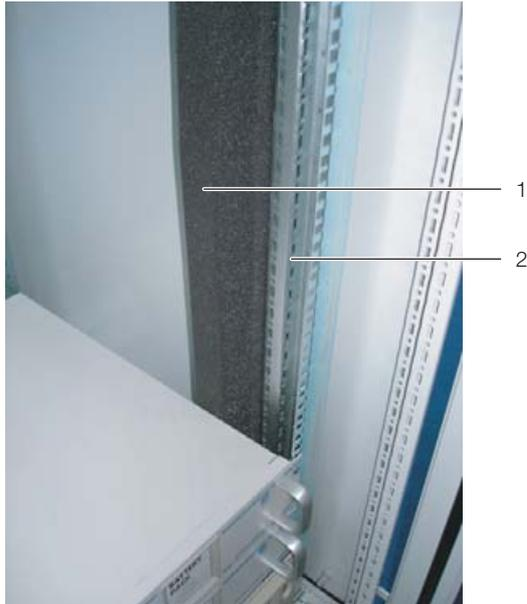

Fig. 16: Foam strip on a server rack upright
- Fasten the wider (Model No. 3301.370 / 3301.320) of the two foam strips from the LCP DX accessories onto one of the front uprights of the server rack from the outside (fig. 16). Make sure to install this strip on the side of the server enclosure onto which the LCP DX is to be bayed.
- **If you are only baying the LCP DX on one side:** Fasten the narrower (Model No. 3301.380 / 3301.390) of the two foam strips from the LCP DX accessories onto one of the front uprights of the server rack from the outside (fig. 16). Make sure to install this strip on the side of the server enclosure which will again be sealed by a side panel.